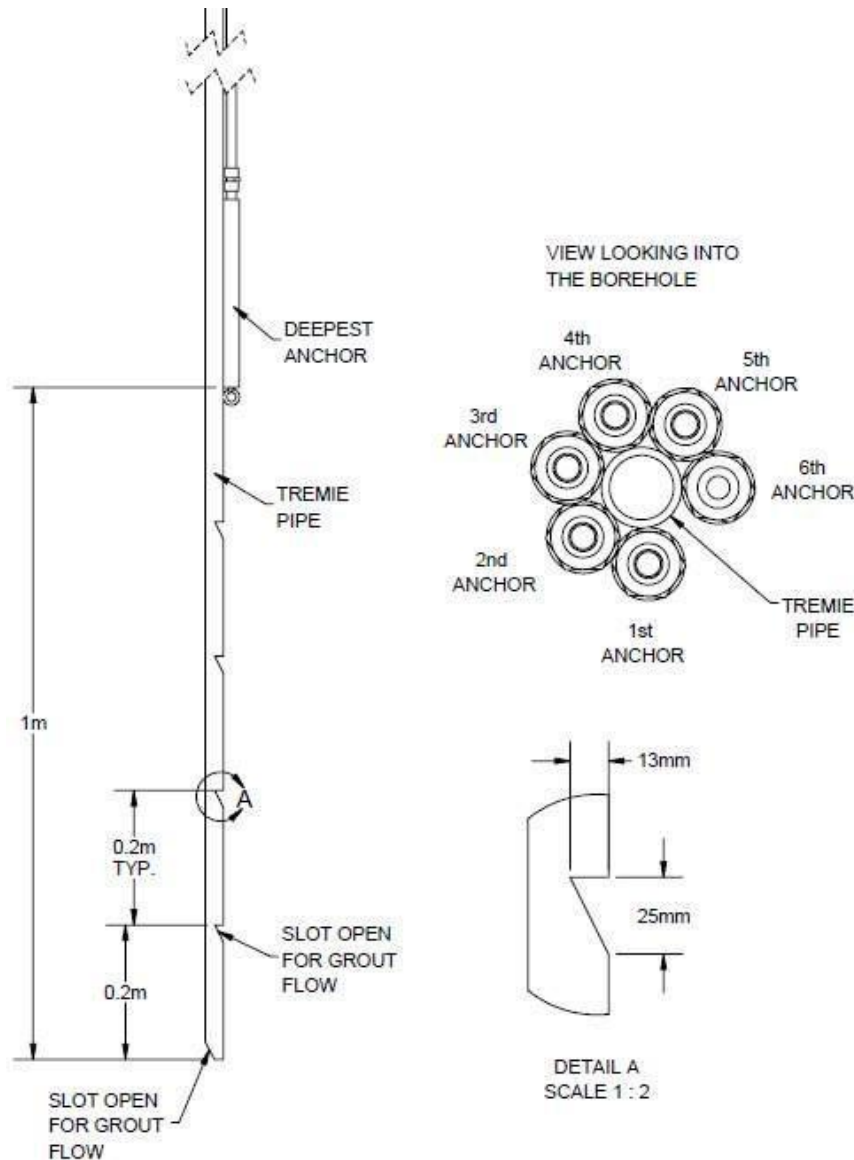

Figure 10: Borehole is 1m deeper than the lowest anchor elevation
- It is recommended that the depth of the borehole is 1m deeper than the deepest anchor elevation (see Figure 10).